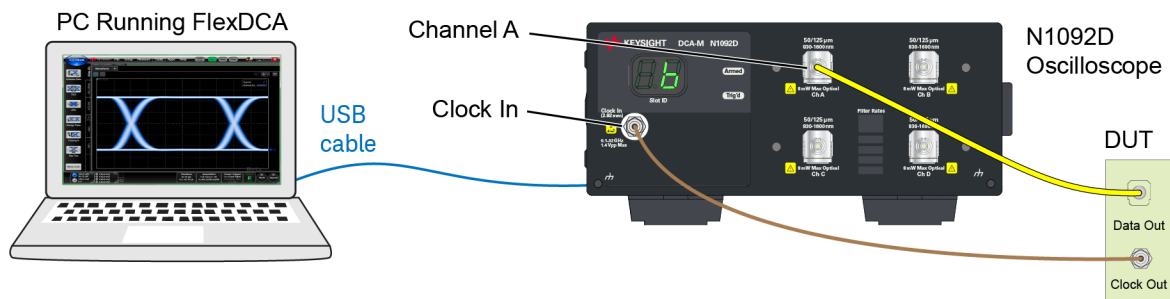

Figure 21. Typical Connection Setup
2. Connect the N109X-oscilloscope as shown in Figure 21. If connecting to a DCA-X, be sure to connect the USB cable to the DCA-X's *rear-panel* USB port.